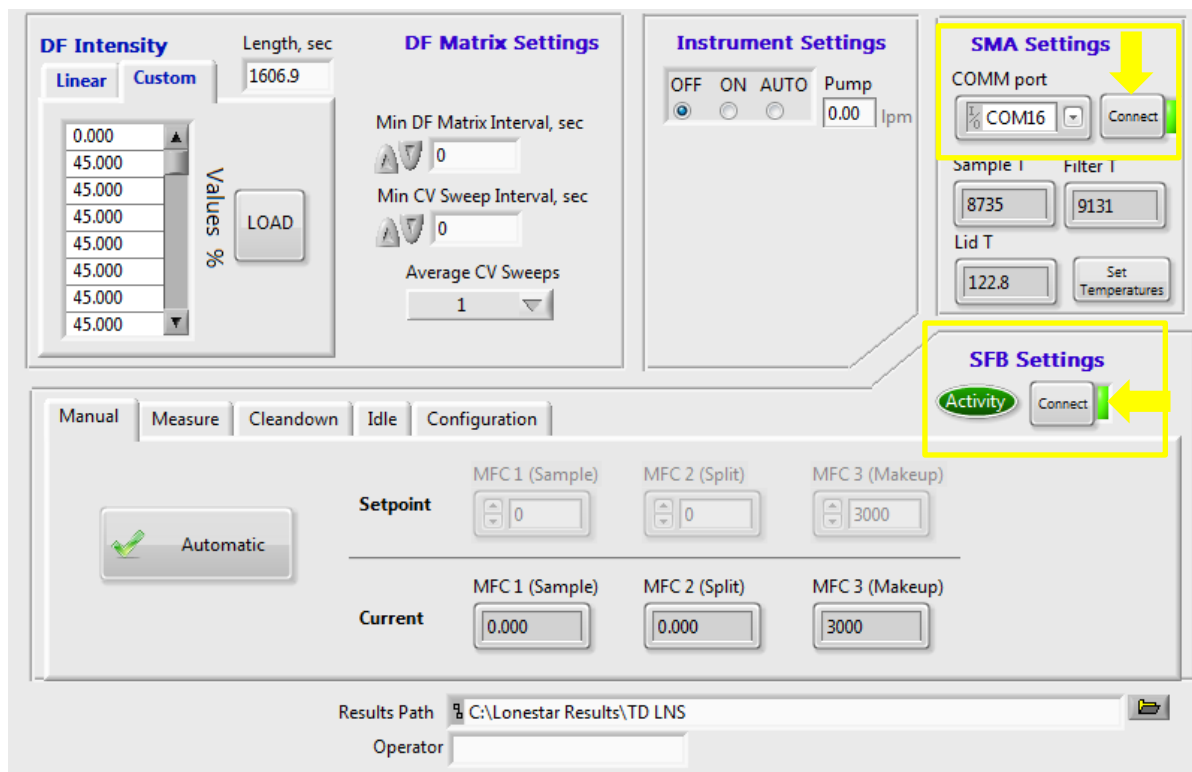

Figure 3. LNS interface screen. The yellow arrows point at the buttons that should be displaying “Connect”, press them if they are not.
4.1.3 If gas flow and pressure parameters are both zero, go to “Settings” and press the “COMM port” and “SFB settings” buttons, so that both display the message “Connect”, as shown in Figure 3.